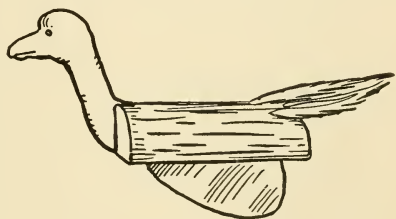

FIG. 402. — The Duck.
**A Duck** is shown in Fig. 402. The body for this consists of a cork split in half, the head is cut out of a piece of cigar-box, and a small tin keel is fastened to the centre of the under side of the body. A few chicken